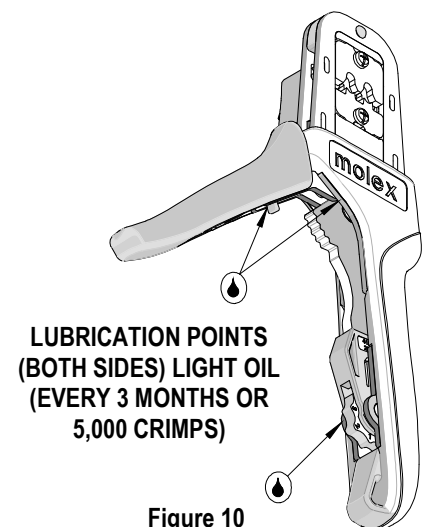

Figure 10
1. Hold the hand tool in the palm of your hand as shown in Figure 10. Using the index finger, squeeze the link toward the top of the hand tool frame. This will release the preload adjustment wheel.
2. Rotate the setting wheel counterclockwise (CCW) to increase handle force. The numbers will display higher. To decrease handle force, rotate the setting wheel clockwise (CW).